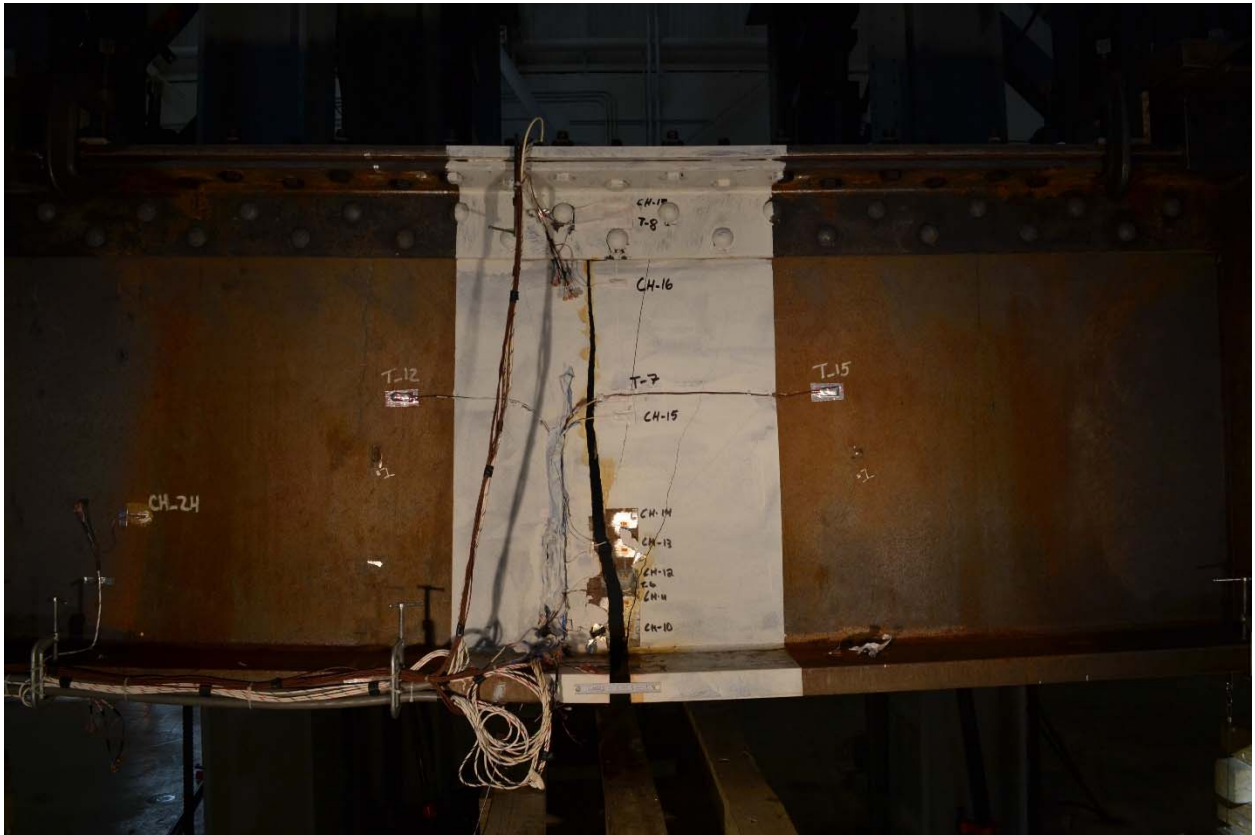

Figure 1: Specimens 50\_2-0\_1B
- Tested four bending test specimens: 50\_2-0\_1B and 2B as well as 70\_1-5\_1B and 2B (Figures 1 - 4).
- Tested two axial test specimens: 50\_1-5\_1A and 2A (Figures 1 and 2).